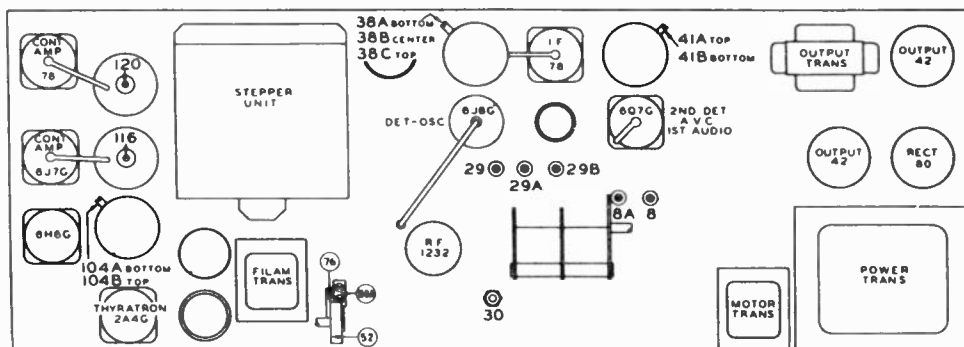

FIG. 5. LOCATIONS OF ALIGNING COMPENSATORS, MODELS 40-215, 40-217.
below. Locations of the compensators are shown in Fig. 5, page 80. If the output meter pointer goes off scale when adjusting the compensators, reduce the strength of the signal from the generator.
2. Now bring the wireless remote control unit close to the receiver. Using a padding wrench, Philco Part No. 3164, tune the compensator (128) Fig. 5, located on the bottom of the remote control unit until a maximum voltage reading is indicated on the vacuum tube voltmeter. When tuning this compensator, it should be done very slowly so as not to pass over the frequency to which the control amplifier is tuned.
3. After adjusting the compensator with the sensitivity control on the receiver in the "extreme" position, the remote control unit is adjusted for maximum sensitivity by setting the sensitivity control in the "near" position and placing the remote control unit a few feet away from the receiver. The compensator (128) Fig. 5, is then adjusted again for maximum voltage reading of the vacuum tube voltmeter.